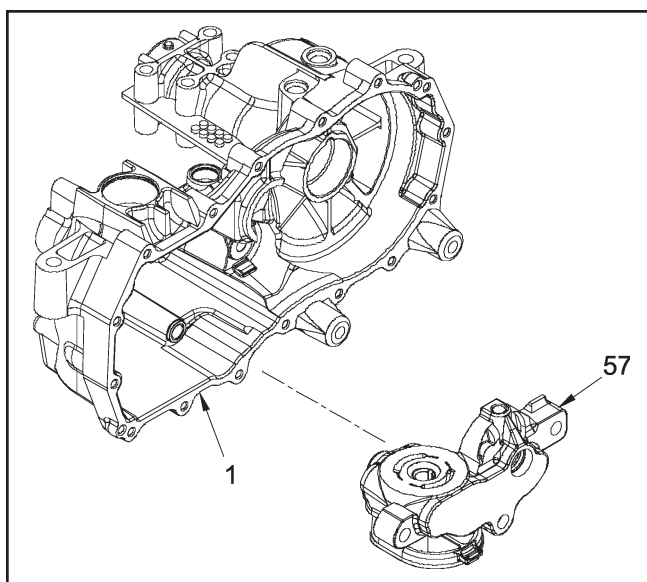
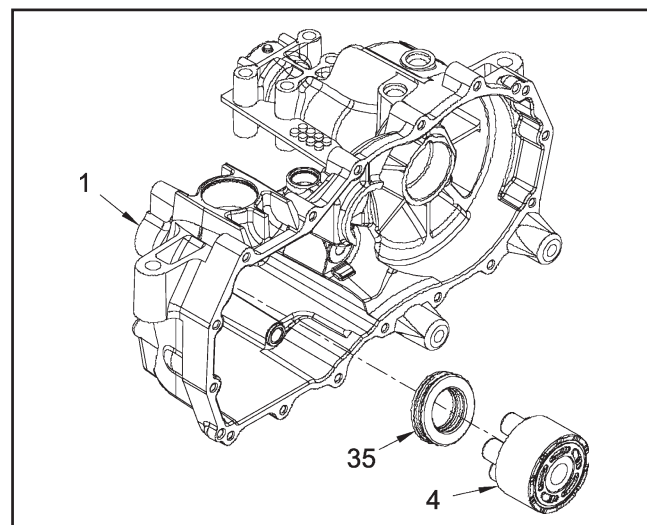

Figure 17.
Figure 19.
13. Remove the center section and filter assembly (57, Figure 17). NOTE: Bypass plate (Figure 17) may slide out of the center section.
15. Note the location of both check plugs (56) before removal for correct replacement during reassembly. Remove and inspect the check plug assemblies (56) for debris or damage.
16. Remove the filter base (61) and discard it. NOTE: The filter base is included in the filter kit to be installed during reassembly of the unit.
17. **(See Figure 19)** Remove the motor cylinder block assembly (4) from the housing (1).
18. Disassemble the motor cylinder block assembly (4). Check each piston for proper operation by pressing the pistons in and releasing them in the block bore. Disassemble the motor cylinder block. Check for piston/block wear in the cylinder bore. Inspect the pistons, piston springs and thrust washers for excessive wear or damage. NOTE: Thrust washers may be held in place in the piston by residual oil.
20. Remove the thrust bearing assembly (35) from the housing (1). Inspect the thrust bearing and thrust bearing cavity in the housing.
1. (See Figure 19) Turn the housing (1) so the motor thrust bearing cavity is facing up. This will assist in the installation of the motor thrust bearing assembly (35) keeping it in the bearing cavity during installation of the center section assembly (57, Figure 17).
2. Insert the thrust bearing (35) in the housing (1). NOTE: Place the thin race of the bearing towards the housing bearing cavity. The thick race must face the pistons.